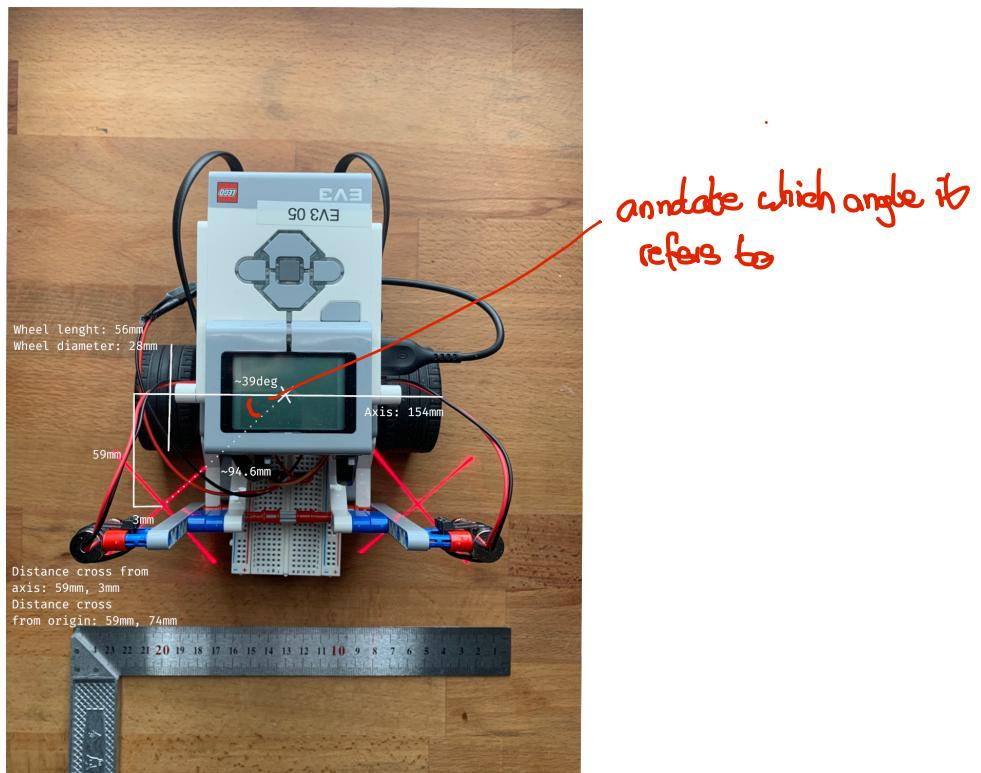

Figure 1.5: Rosa with the measurement facility
- The Figure 1.5 represents the distances between the two cross lasers and the center of the robot.